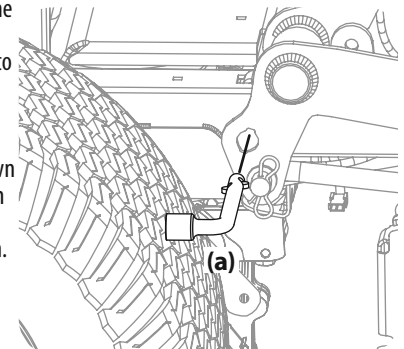

Figure 40
5. On tractors equipped with the deck lift knob, use the deck lift pedal and deck lift knob to place the deck in the lowest position and use the multi-tool (a) to lock the deck lift components in place as shown in Figure 40. On tractors with a deck lift handle, lower the deck into the lowest position.